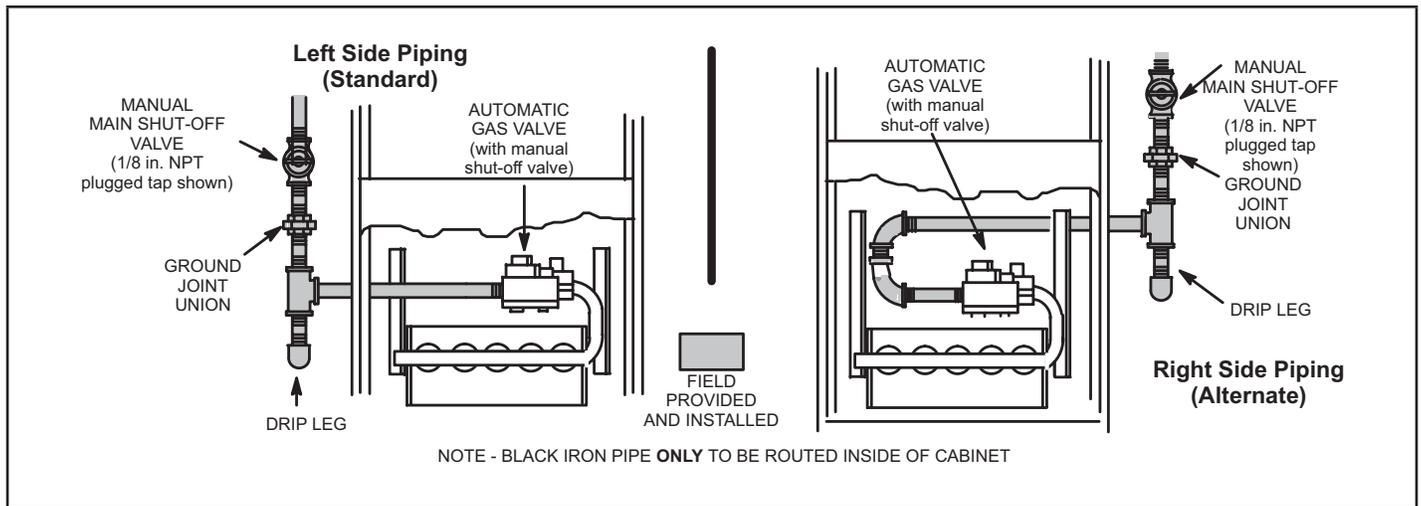

Figure 51
- 1 - Gas piping may be routed into the unit through either the left- or right-hand side. Supply piping enters into the gas valve from the side of the valve as shown in figure 51. Connect the gas supply piping into the gas valve. The maximum torque is 800 in lbs and minimum torque is 350 in lbs when attaching the gas piping to the gas valve.
- 3 - Gas piping must not run in or through air ducts, clothes chutes, chimneys or gas vents, dumb waiters or elevator shafts. Center gas line through piping hole. Gas line should not touch side of unit. See figures 51.